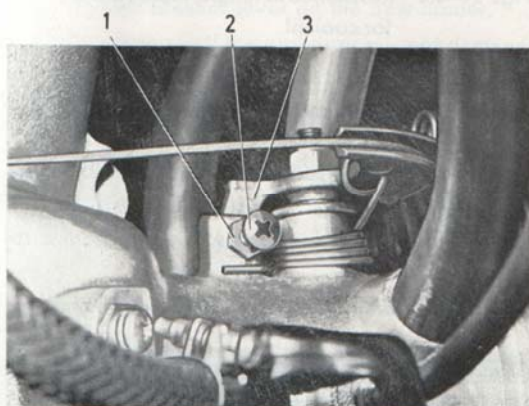

Fig. 2—44. Stop screw for throttle valve
2. Slacken the hose clips and disconnect the hose. Connect the pressure gauge as shown in Fig. 2—43. Remove the pinchers.
1. Slacken the locknut for the stop screw on the throttle valve, (see 1, Fig. 2—44) and screw out the screw a couple of turns so that it does not lie against the stop on the throttle valve spindle. Check to make sure that the valve is completely closed.